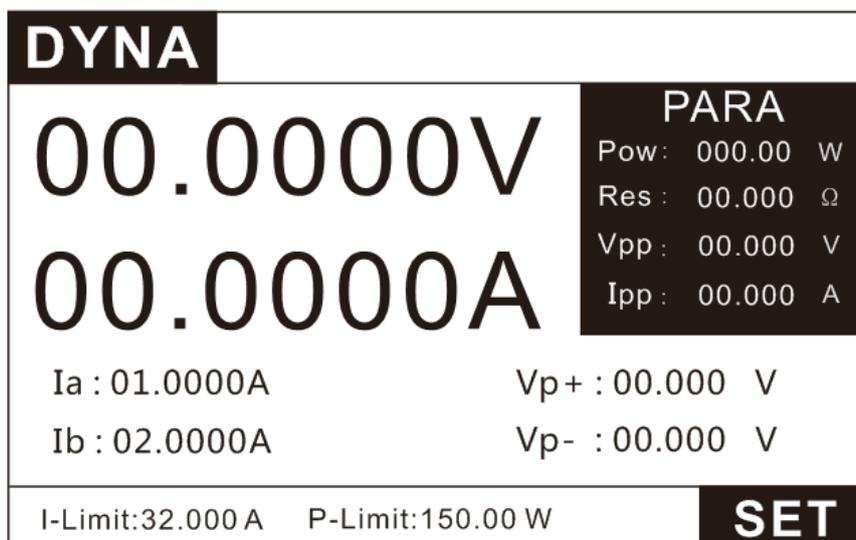
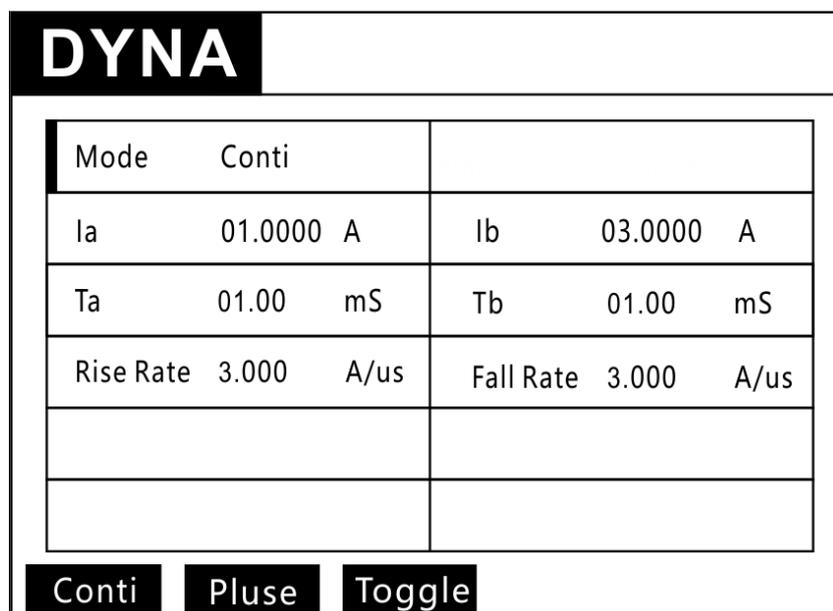

Figure 3.16 DYNA testing page
Figure 3.17 DYNA Setting Page
1. Press the key **MODE** to enter the mode selection page, press the up and down keys to select DYNA, and press the key **ENTER** to enter the DYNA test interface, as shown in Figure 3.16.
2. In Figure 3.16, press the key **SET** to enter the setting interface, as shown in Figure 3.17.
3. As shown in Figure 3.17, set the test mode to continuous test, high current  $I_b=3A$ , high time  $T_b=1mS$ , low current  $I_a=1A$ , low time  $T_a=1mS$ , rise/fall rate= $3A/\mu S$ .